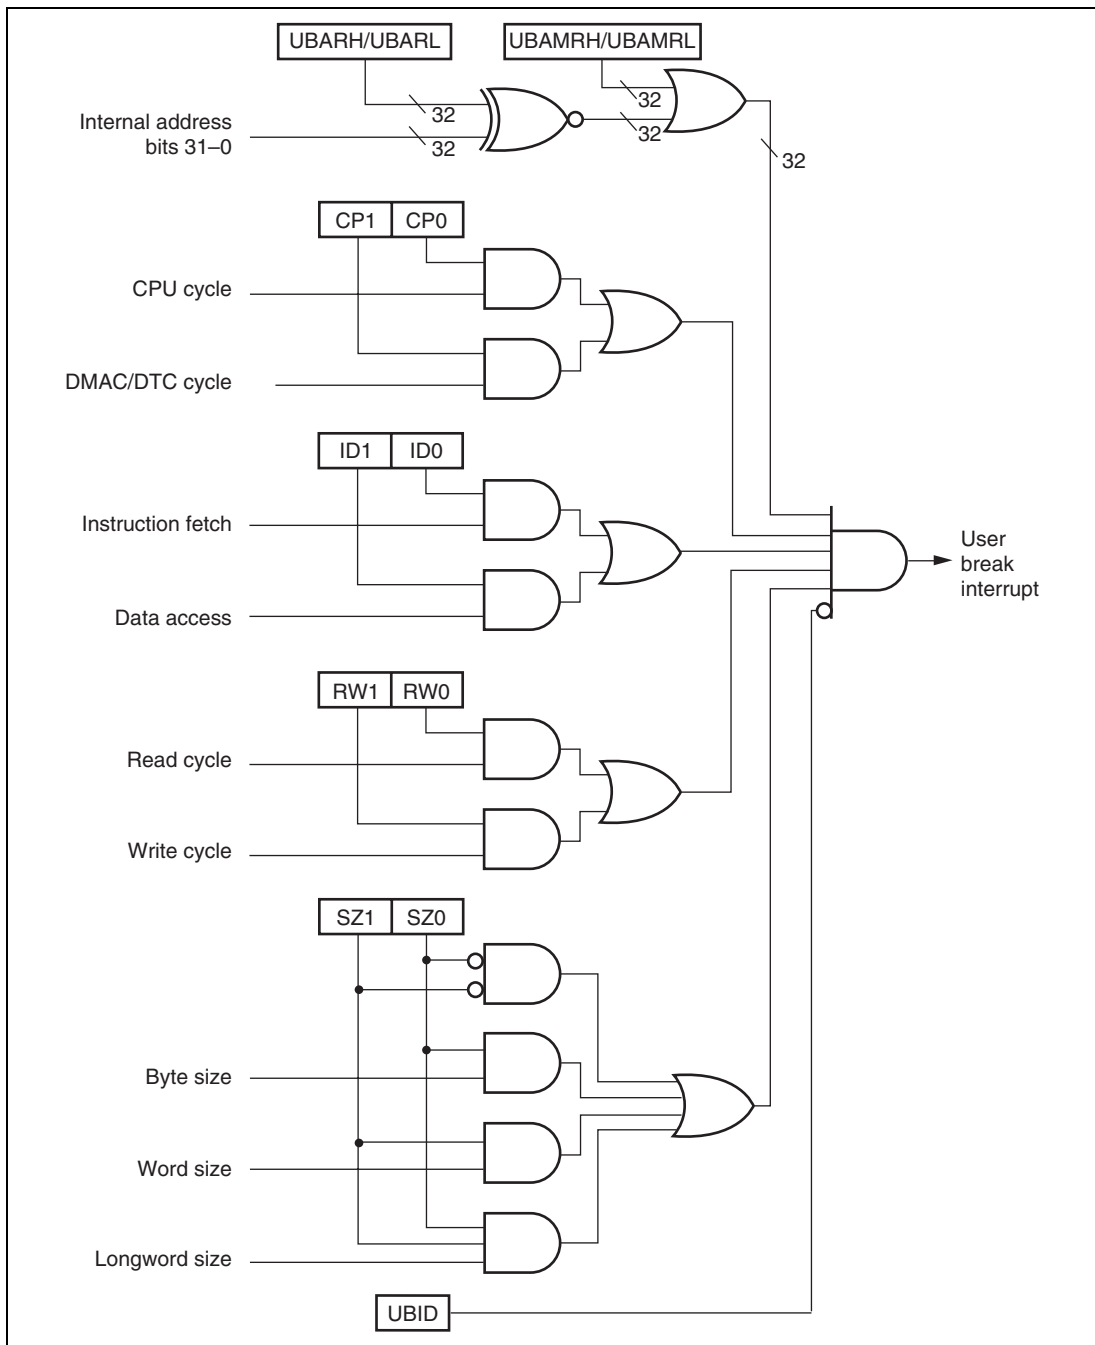

Figure 7.2 Break Condition Determination Method
2. The UBC uses the method shown in figure 7.2 to determine whether set conditions have been satisfied or not. When the set conditions are satisfied, the UBC sends a user break interrupt request signal to the interrupt controller (INTC).
3. The interrupt controller checks the accepted user break interrupt request signal's priority level. The user break interrupt has priority level 15, so it is accepted only if the interrupt mask level in bits I3 to I0 in the status register (SR) is 14 or lower. When the I3 to I0 bit level is 15, the user break interrupt cannot be accepted but it is held pending until user break interrupt exception processing can be carried out. Consequently, user break interrupts within NMI exception service routines cannot be accepted, since the I3 to I0 bit level is 15. However, if the I3 to I0 bit level is changed to 14 or lower at the start of the NMI exception service routine, user break interrupts become acceptable thereafter. See section 6, Interrupt Controller (INTC), for the details on the handling of priority levels.